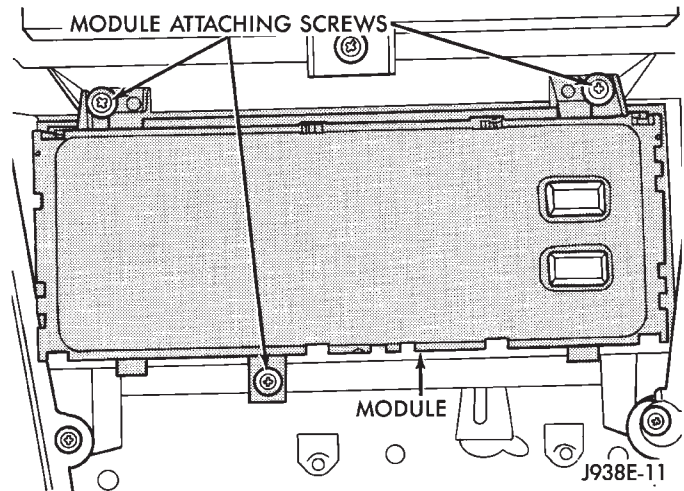

Fig. 2 Module Attaching Screws
- (4) Remove center bezel.
- (5) Remove 3 screws holding GDM (Fig. 2).
- (6) Pull module out far enough to unplug connector.